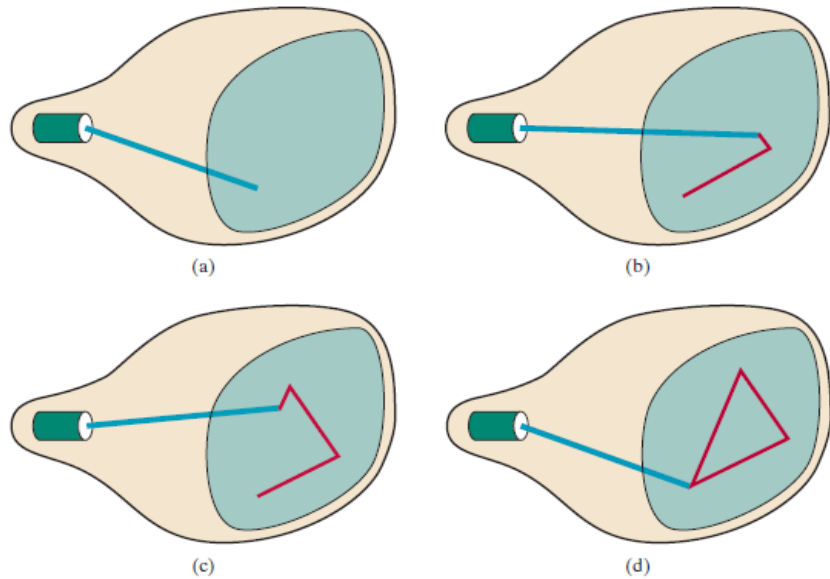

FIGURE 2-9 A random-scan system draws the component lines of an object in any specified order.
3. The component lines of a picture can be drawn and refreshed by a random-scan system in any specified order (Fig. 2-9). A pen plotter operates in a similar way and is an example of a random-scan, hard-copy device.